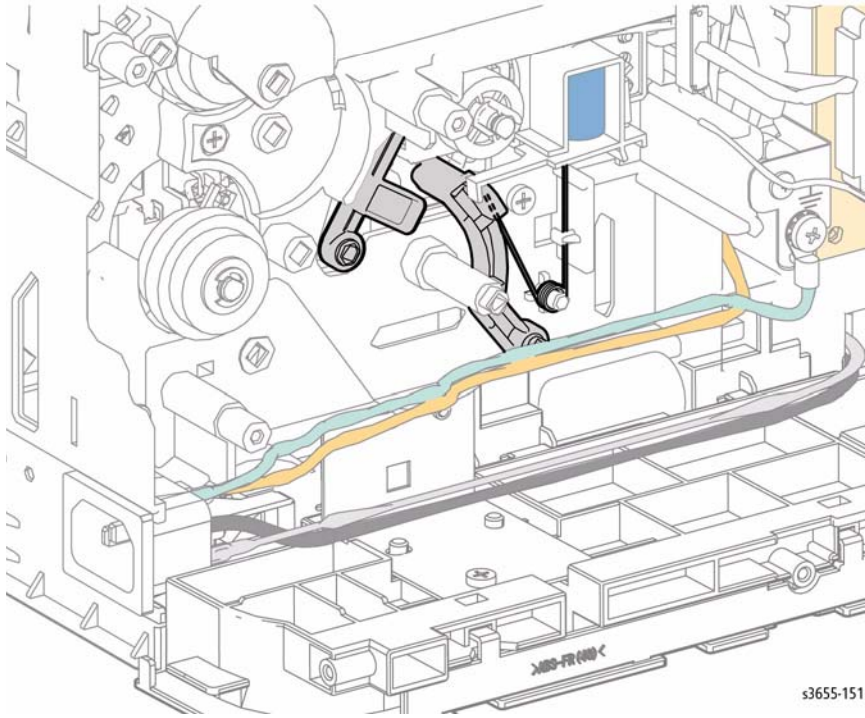

**Figure 7 Install the Stopper Arm**
2. Refer to Figure 7 when installing the MSI stopper arm. Position the Pick-up Holder Assembly as shown to properly engage the arm.